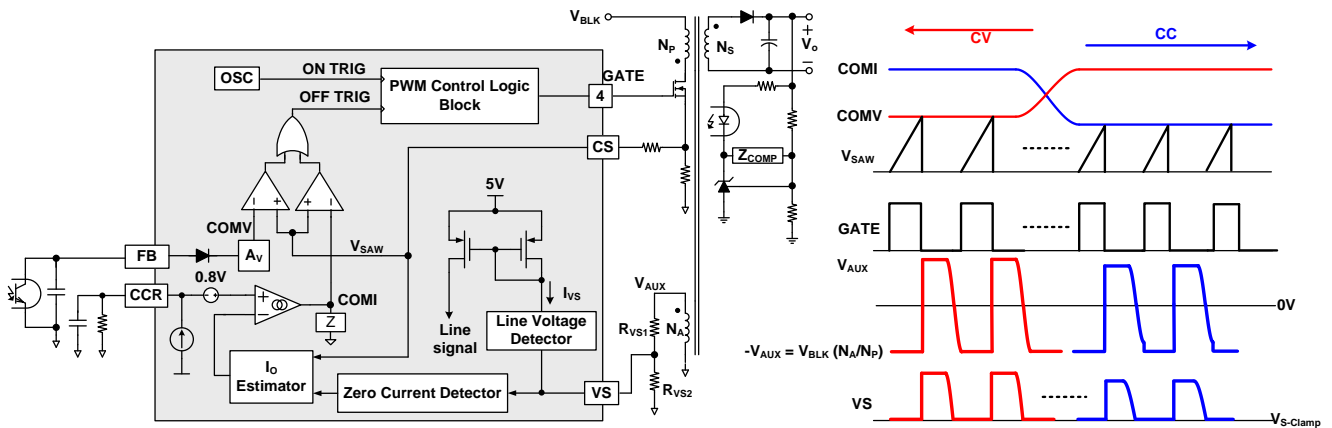
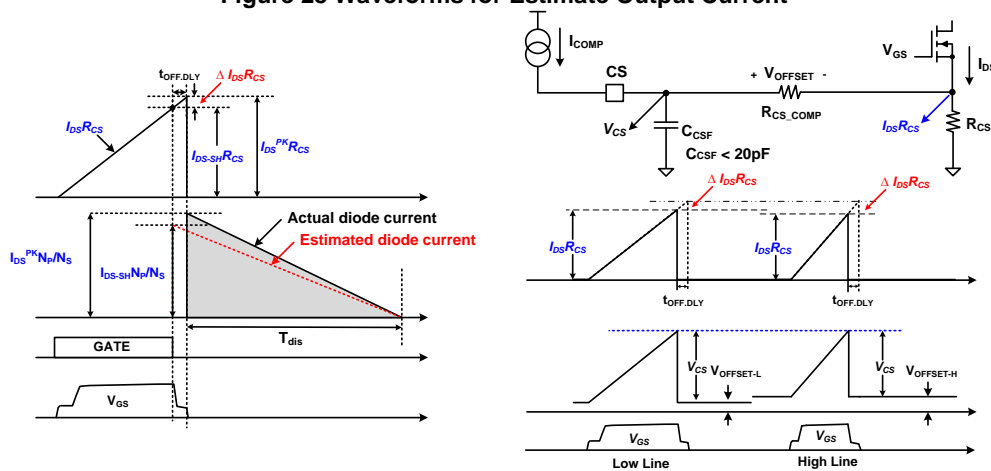

Figure 27 Simplified PWM Control Circuit and PWM Operation for CV/CC Regulation
Figure 29 Effect of MOSFET Turn-off Delay and Line Voltage Compensation
The FAN604H indirectly senses the line voltage through the VS pin while the MOSFET is turned on, as illustrated in Figure 27. During MOSFET turn-on period, the auxiliary winding voltage, V_{AUX} , is proportional to the input bulk capacitor voltage, V_{BLK} , due to the transformer coupling between the primary and auxiliary windings. During the MOSFET conduction time, the line voltage detector clamps the VS pin voltage to $V_{S-Clamp}$ ($0 V$), and then the current I_{VS} flowing out of VS pin is expressed as:
Figure 27 shows a simplified CV / CC PWM control circuit of the FAN604H. The Constant Voltage (CV) regulation is implemented in the same manner as the conventional isolated power supply, where the output voltage is sensed using a voltage divider and compared with the internal reference of the shunt regulator to generate a compensation signal. The compensation signal is transferred to the primary side through an opto-coupler and scaled down by attenuator A_V to generate a COMV signal. This COMV signal is applied to the PWM comparator to determine the duty cycle.
These two control signals, COMV and COMI, are compared with an internal sawtooth waveform (V_{SAW}) by two PWM comparators to determine the duty cycle. Figure 27 illustrates the outputs of two comparators, combined with an OR gate, to determine the MOSFET turn-off instant. Either of COMV or COMI, the lower signal determines the duty cycle. During CV regulation, COMV determines the duty cycle while COMI is saturated to HIGH level. During CC regulation, COMI determines the duty cycle while COMV is saturated to HIGH level.
The output current estimation is also affected by the turn-off delay of the MOSFET as illustrated in Figure 29. The actual MOSFET's turn-off time is delayed due to the MOSFET gate charge and gate driver's capability, resulting in peak current detection error as
Where L_m is the transformer's primary side magnetizing inductance. Since the output current error is proportional to the line voltage, the FAN604H incorporates line voltage compensation to improve output current estimation accuracy. Line information is obtained through the line voltage detector as shown in Figure 27. I_{COMP} is an internal current source, which is proportional to line voltage. The line compensation gain is programmed by using CS pin series resistor, R_{CS_COMP}, depending on the MOSFET turn-off delay, t_{OFF_DLY}. I_{COMP} creates a voltage drop, V_{OFFSET}, across R_{CS_COMP}. This line compensation offset is proportional to the DC link capacitor voltage, V_{BLK}, and turn-off delay, t_{OFF_DLY}. Figure 29 demonstrates the effect of the line compensation.